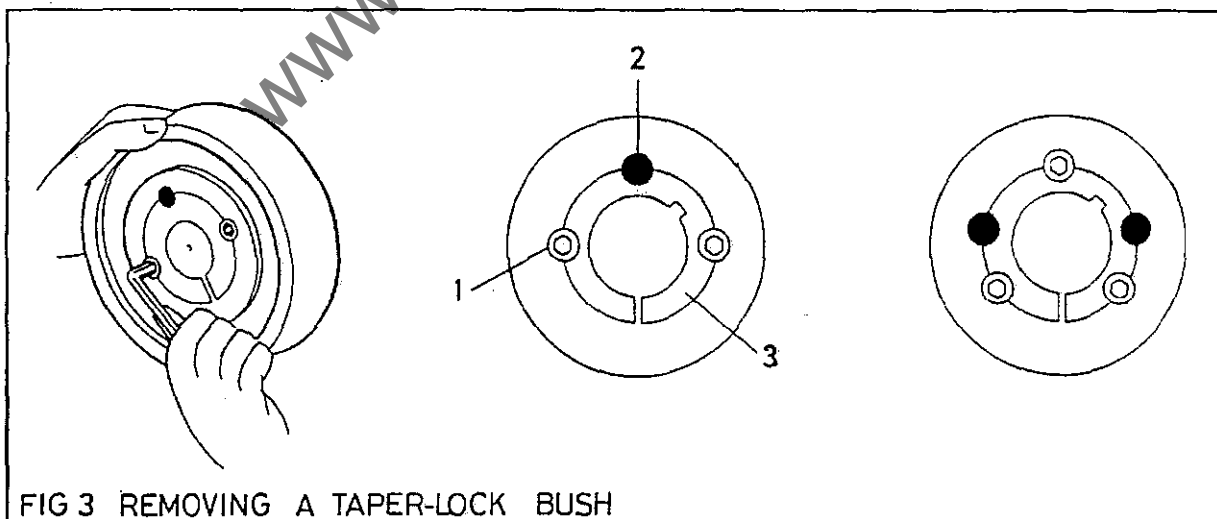

FIG 3 REMOVING A TAPER-LOCK BUSH
**Note:** It may at times be necessary to remove a drive pulley. The motor shaft pulleys are fitted with taper lock bushes (see fig 3). Spindle pulleys are located on tolerance rings and held on by spigot washer and screw.
## Removal and Refit of Drive Pulleys (Fig 3)